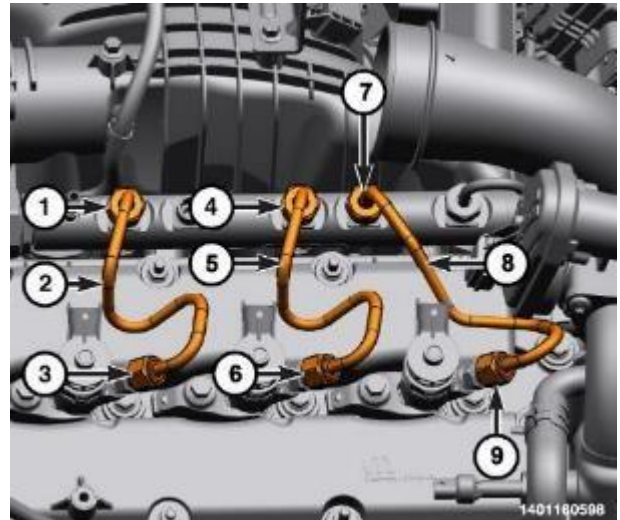

Figure 26 – Right Bank Fuel Pipes
49. Unscrew the union nuts (1 and 3) and remove cylinder No. 4 fuel tubes (2) and discard the fuel tubes (Figure 26).
51. Unscrew the union nuts (4, 6) and remove cylinder No. 5 fuel tube (5), and discard the fuel tube (Figure 26).
53. Unscrew the union nuts (7, 9) and remove cylinder No. 5 fuel tube (8), and discard the fuel tube (Figure 26).